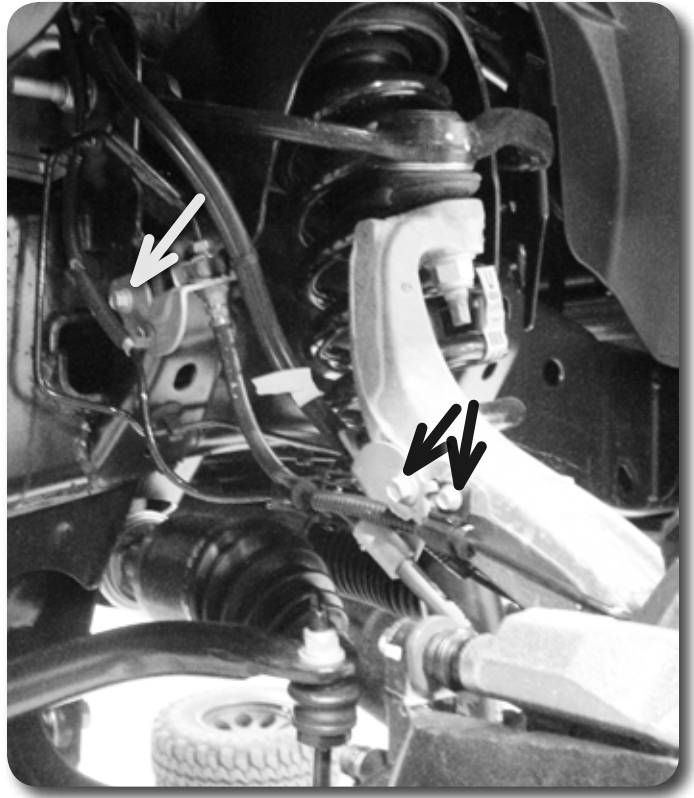

Figure 2
8. Disconnect the ABS and hub vacuum lines from the retaining clips. Disconnect the brakeline bracket from the frame rail. Disconnect the ABS line from the hub assembly. **Figure 2 & 3**